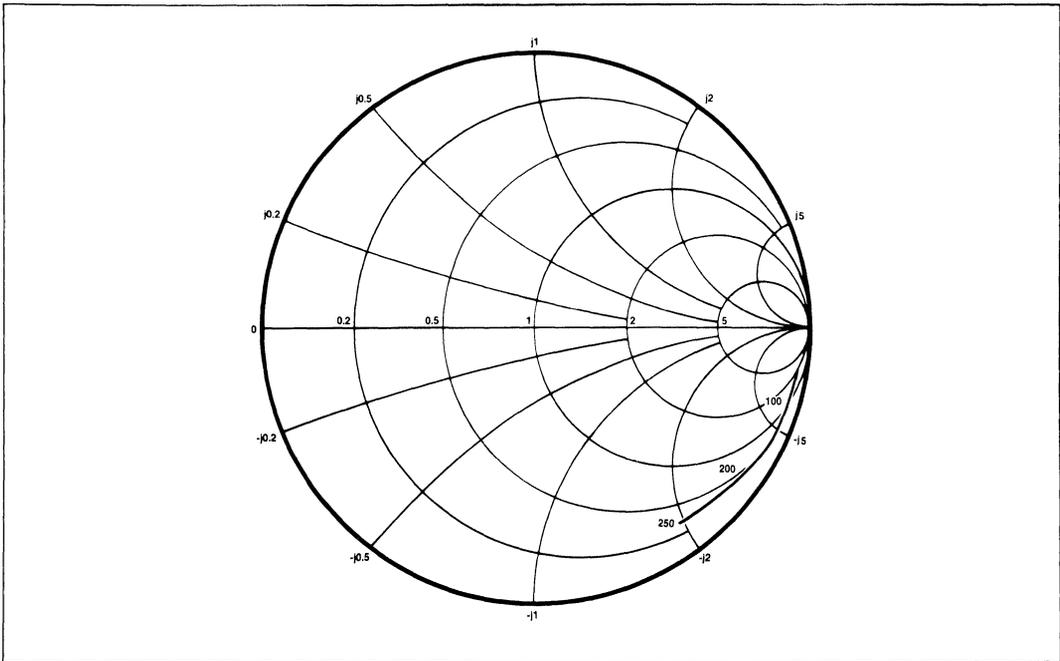

Fig.4 Typical input impedance: supply voltage -5.2V, temperature 25° C, frequencies in MHz, impedances normalised to 50 ohms.
6. The input impedance varies as a function of frequency. See Fig. 4.